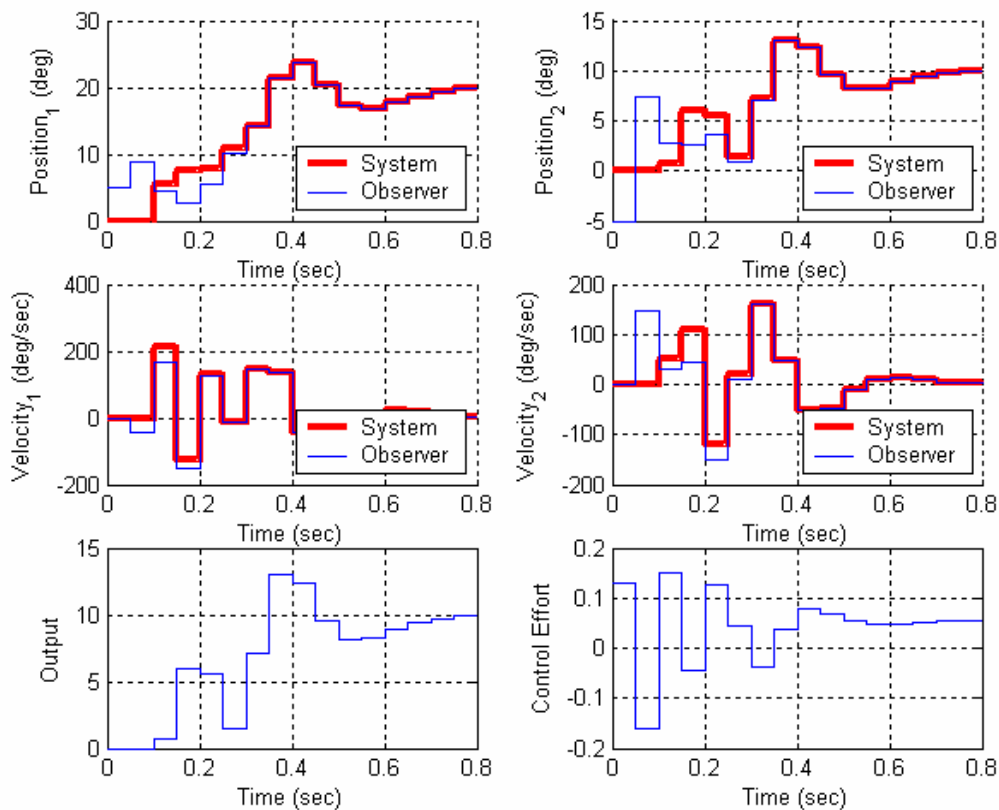

Figure 6: Results for problem 4b.
b) Place all the state feedback poles at 0.2, and the observer poles at 0.06 0.08 0.1 0.12 0.14. You will probably need to use the **place** command to place the observer poles here. Assume the position of the second disk is isavailable to the observer and the system output is the position of the second disk. The estimated position of the first disk is assumed to be 5 degrees and the estimated position of the second disk is assumed to be -5 degrees. All other initial estimates are zero. The real system is starts at rest. The velocity and control inputs are assume to be zero. For a 10 degree step input you should get the graph shown in Figure 6. Turn in your plot.